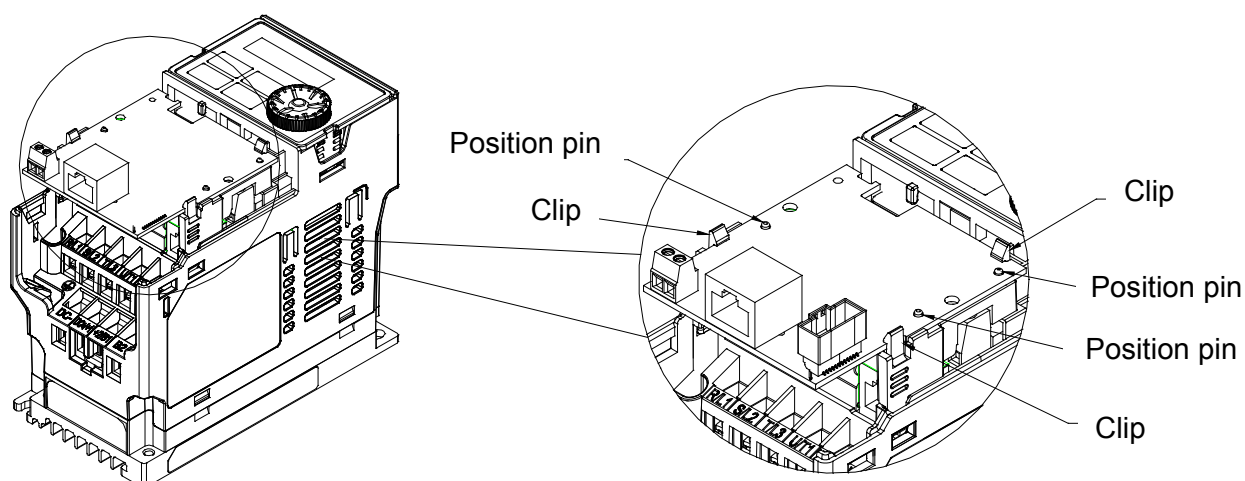

Fig. 2
4. As shown in Fig. 2, aim the three holes at the positioning pin. Press the pin to clip the holes with the communication card.